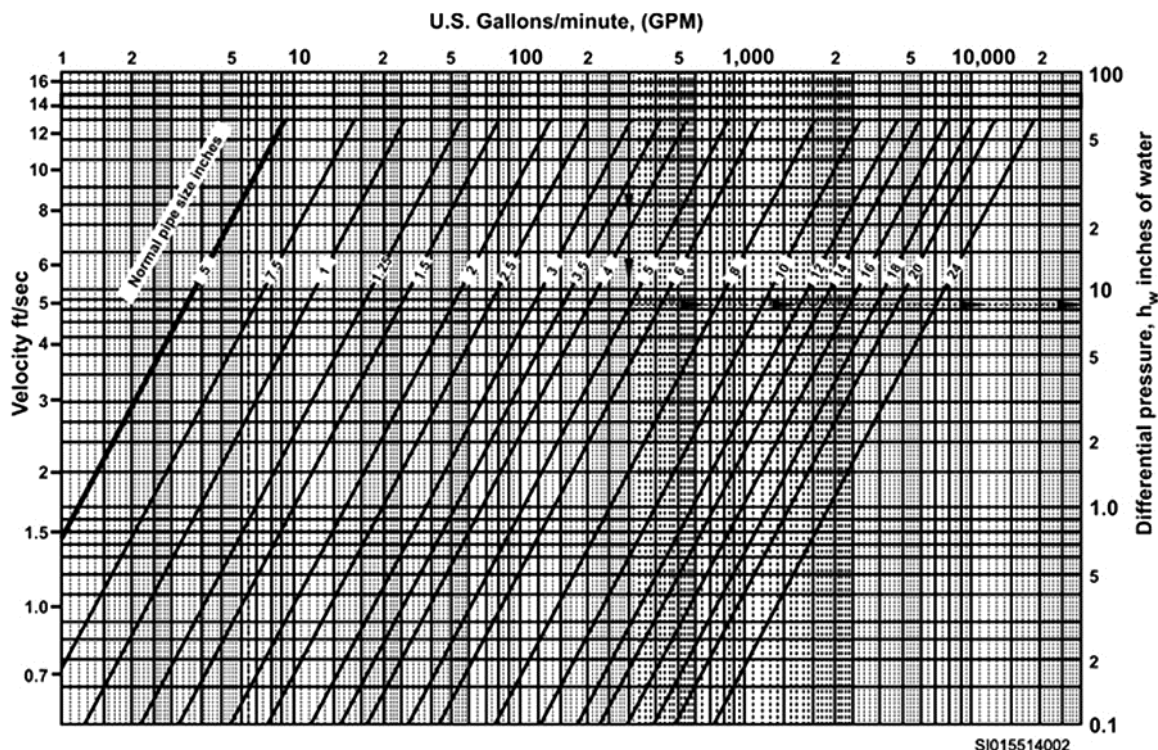

Figure 2-35. Annubar differential pressure chart.
To find the differential pressure on the annubar chart (fig. 2-35), follow this procedure:
Assume water is flowing at 300 GPM in a 5-inch pipeline. What is the differential pressure? Follow the dotted lines on the chart to find a differential pressure of 8.4 inches of water (fig. 2-35).
4. Using the annubar chart in figure 2-35, find the gpm in a 5-inch line with a differential pressure of 8.4 inches of water.